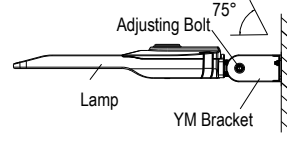

Figure 27
Step 3: Attach the fixture to the bracket and tighten the screws; connect the wires properly and place them into the junction box (Figure 27).
Notice: The adjustable angle is 0-75° (Figure 27).